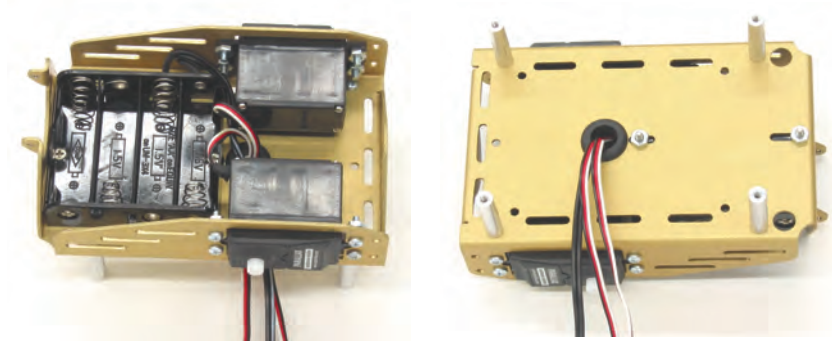

Figure 3-6
- ✓ Use the flathead screws and nuts to attach the battery pack to underside of the Boe-Bot chassis as shown on the left side of Figure 3-6.
- ✓ As shown on the right side of Figure 3-6, pull the battery pack's power cord through the hole with the rubber grommet in the center of the chassis.